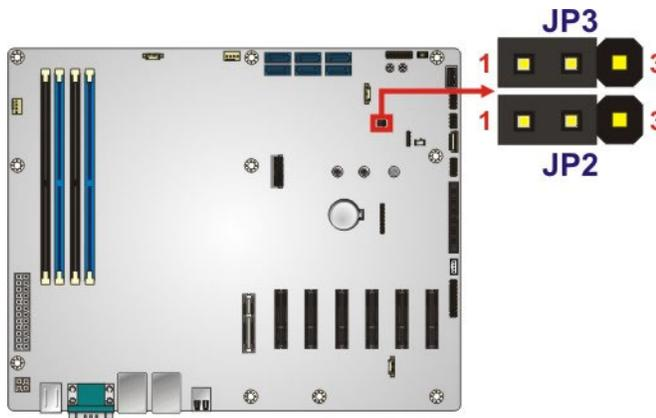

Figure 4-8: Clear CMOS Jumper Locations
- Jumper Location:** See Figure 4-8